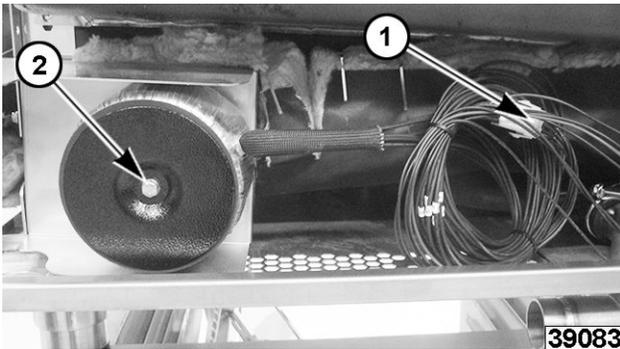

Fig. 74
2. Disconnect wire connector (1, Fig. 74).
3. Remove mounting screws (2, Fig. 74).